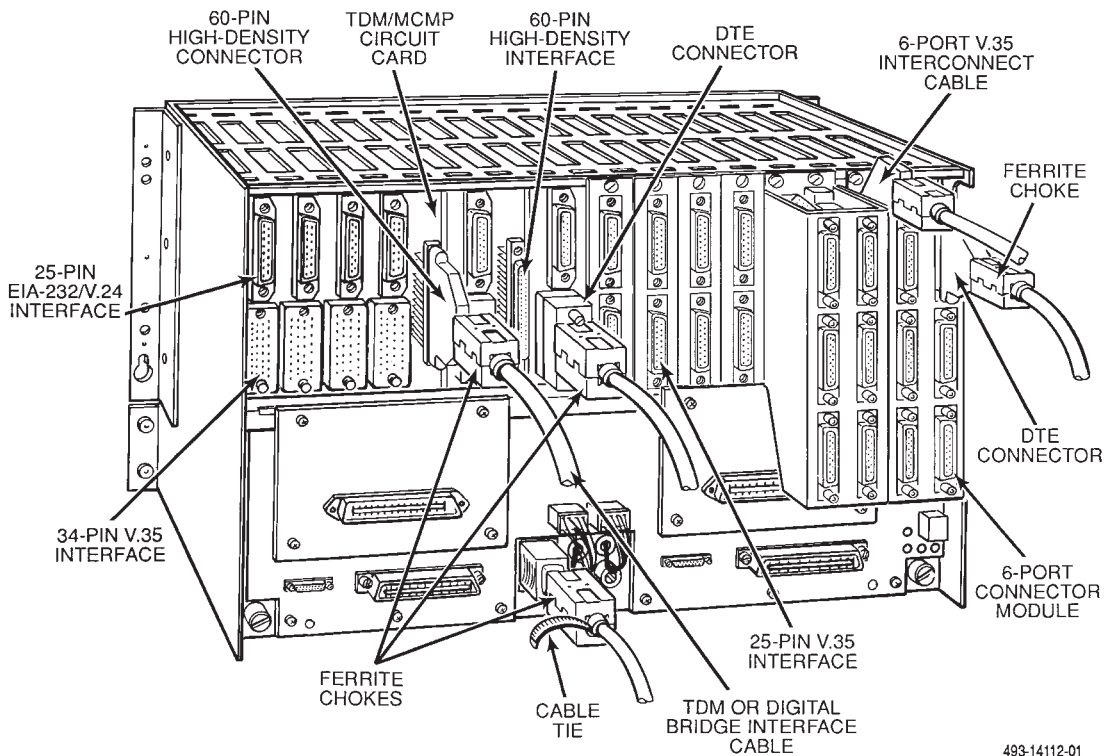

Figure 3-4. COMSPHERE 3000 Series Carrier (Rear)
2. Connect the TDM or digital bridge interface cable to the TDM or MCMP, and to the appropriate DTEs, or DBM-V or DBM-S circuit cards. Also attach the ferrite chokes provided with the DTE cables (Figure 3-4).
A connector module, which is supplied with each modular TDM or MCMP card, has six ports (labeled Port 1 through Port 6). The connector module is shown on the right in Figure 3-4. When the connector module is installed in a COMSPHERE 3000 Series Carrier, you can remove the modular DSU with a TDM or MCMP without disconnecting the DTE cables at the rear of the carrier.
3. At the rear of the carrier (Figure 3-4), disconnect the DTE interface cable from the rear connector plate; it is not necessary to power down the carrier.
11. Connect the DTE interface cables (Figure 3-4). Install a ferrite choke (provided with the 6-port connector module) on each DTE cable, as close to the cable connector as possible. If your configuration requires a crossover cable (part number 4951-035F), see the documentation provided with the cables.